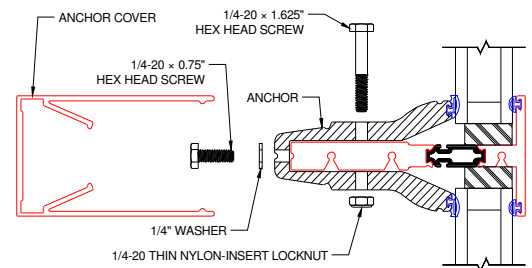

Figure 18:
5. Place the anchor onto the TDL and secure using the 1/4-20 x 0.75" Hex Head Screws and washer provided. Tighten the screws down until the 1/4-20 x 1.625" Hex Head Screws can be placed into the holes located on the sides of the anchor (Figure 18).